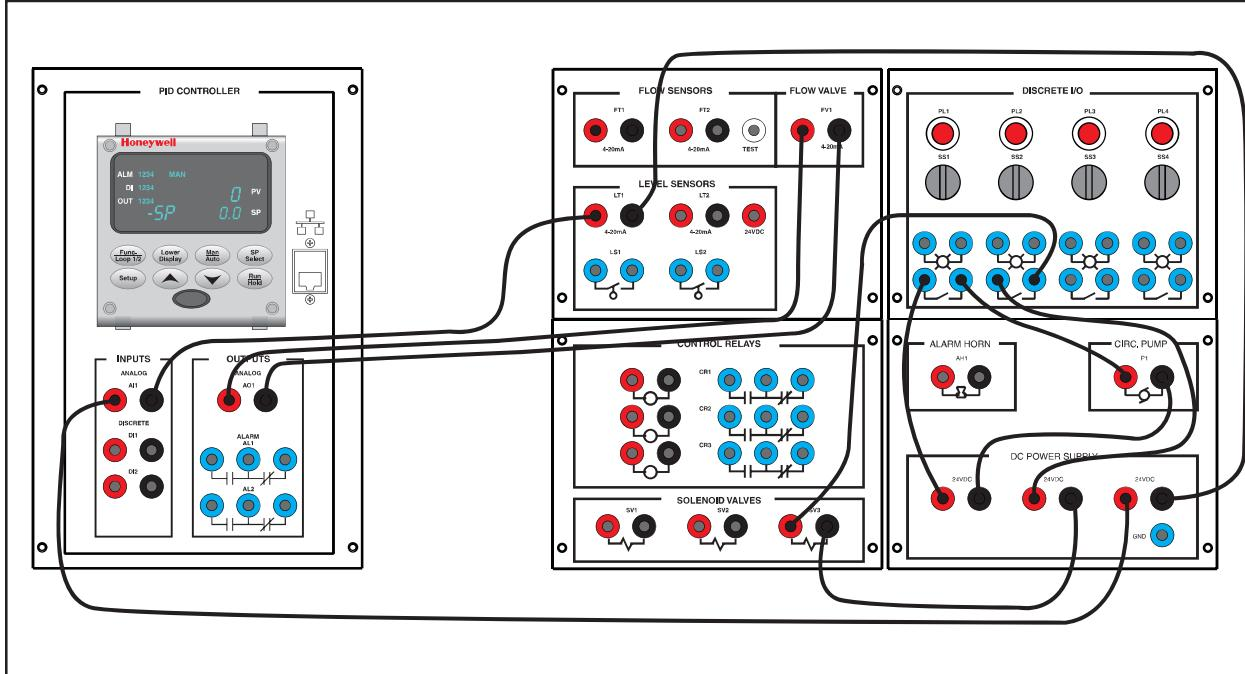

Figure 5-2. Connections for Closed Loop Level Control
- H. Connect the circuit shown in figure 5-2.